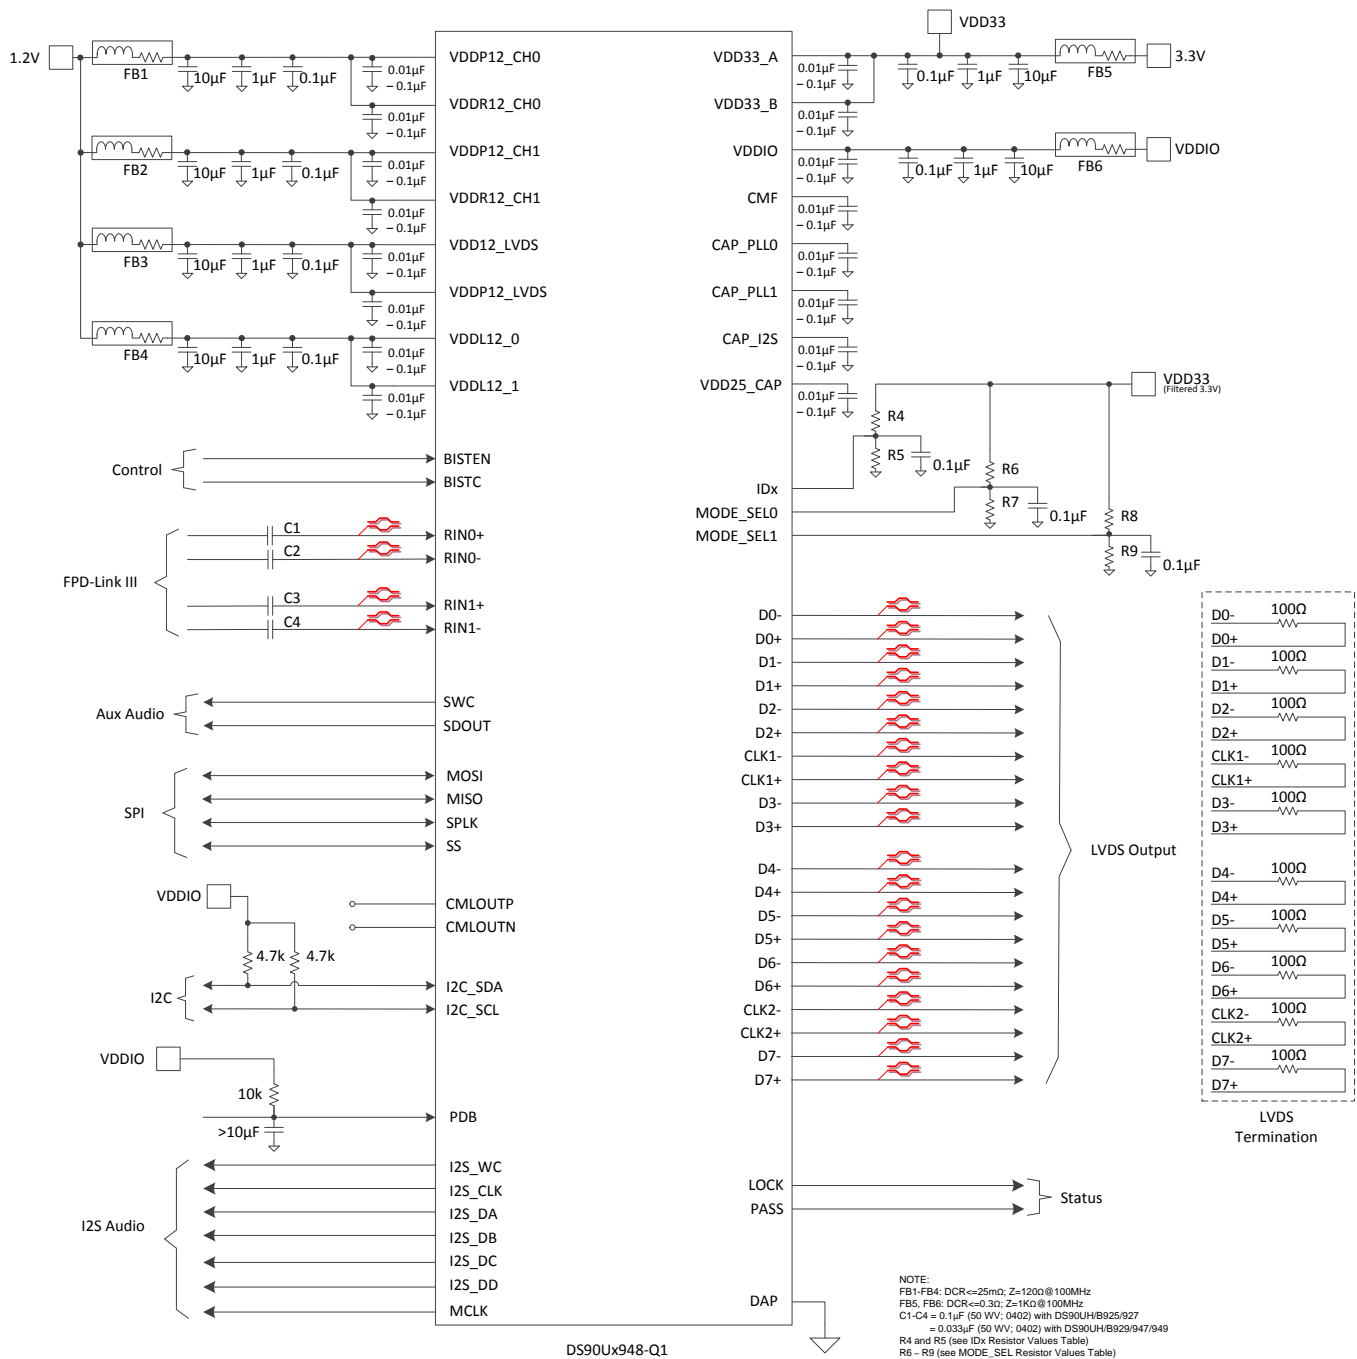
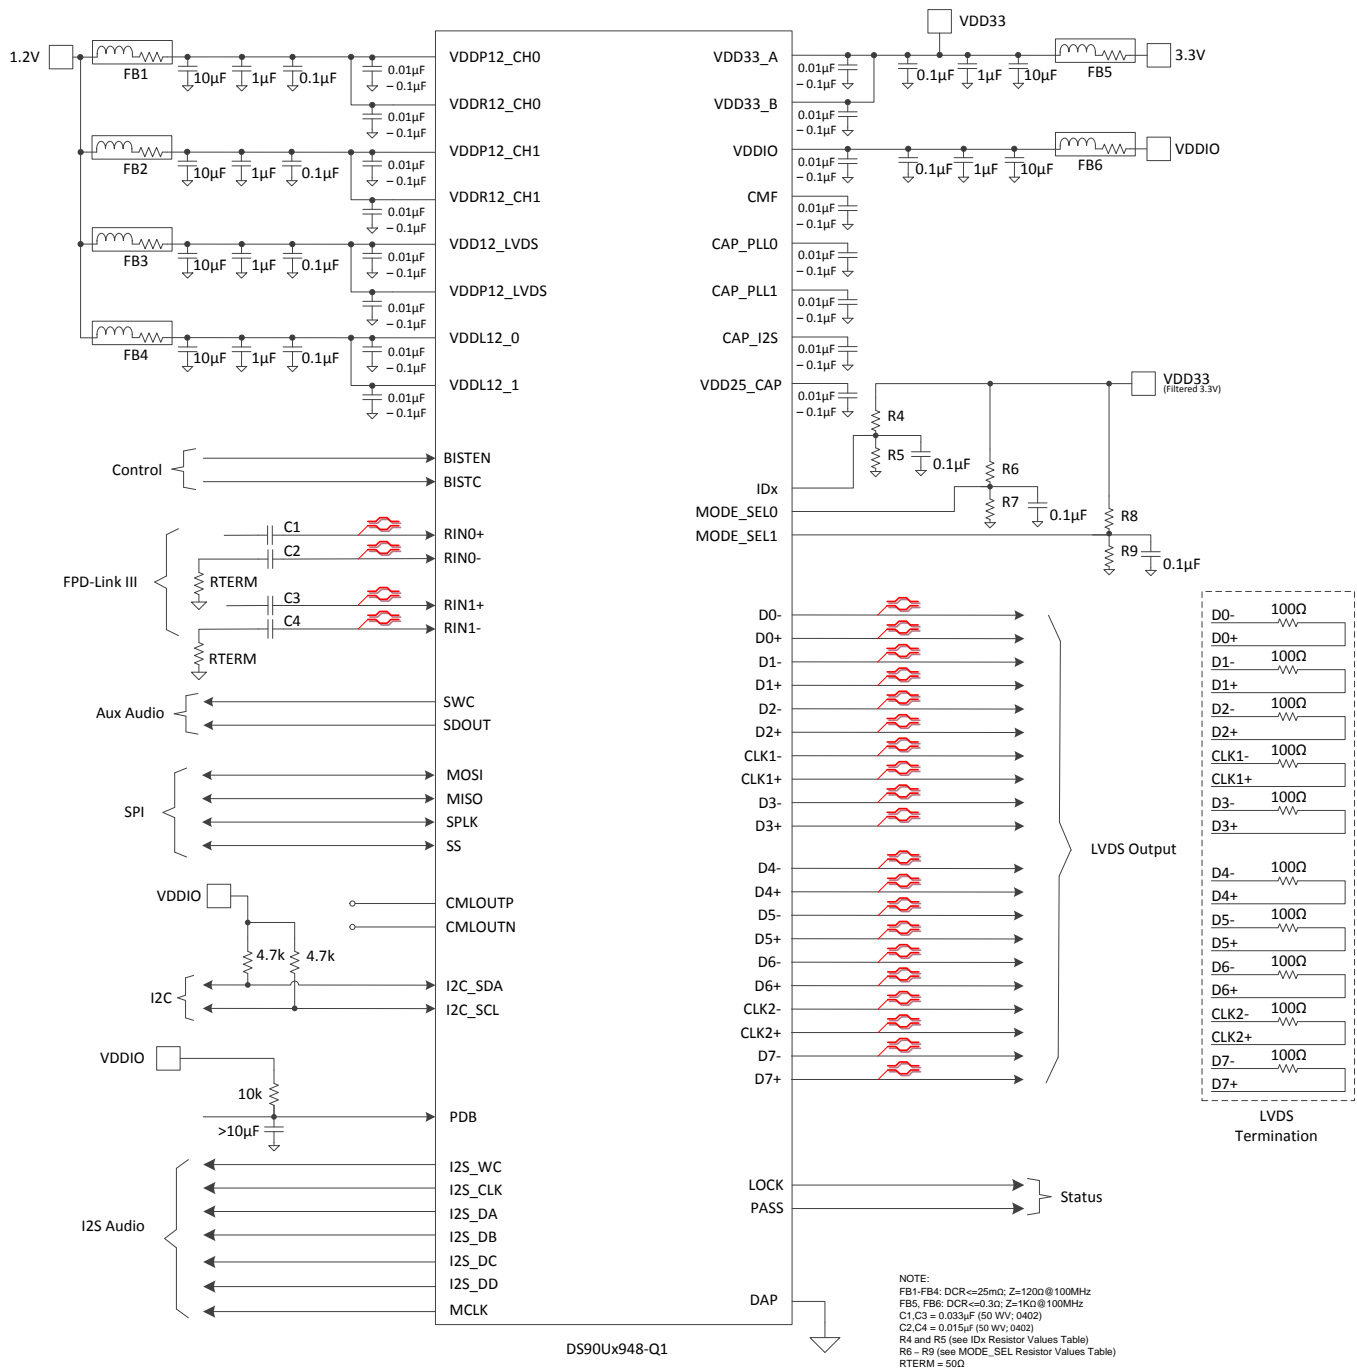

Figure 47. Typical Connection Diagram (STP)
Figure 48. Typical Connection Diagram (Coax)
Bypass capacitors should be placed near the power supply pins. At a minimum, four (4) 10μF capacitors should be used for local device bypassing. Ferrite beads are placed on the two sets of supply pins (VDD33 and VDDIO) for effective noise suppression. The interface to the graphics source is LVDS. The VDDIO pins may be connected to 3.3V or 1.8V. A capacitor and resistor are placed on the PDB pin to delay the enabling of the device until power is stable. See Figure 47 for a typical STP connection diagram and Figure 48 for a typical coax connection diagram.